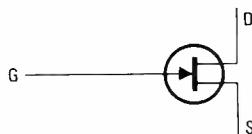

FIG. 2
9. What type of transistor is shown in Fig. 2?